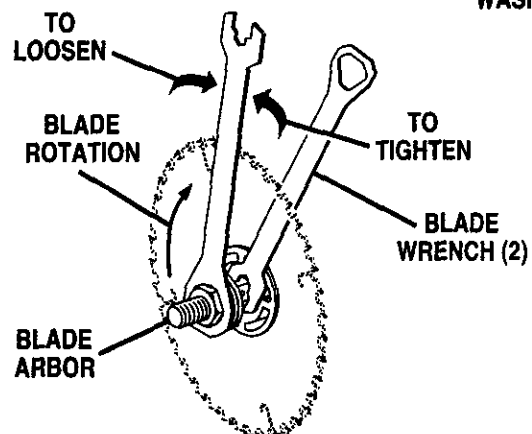

Fig. 26B
- Hold the blade arbor with one wrench and rotate the other blade wrench counterclockwise (up), to tighten the blade nut. See Figure 26B. **Note:** Blade arbor has left hand threads. Test the blade to make sure it turns freely.